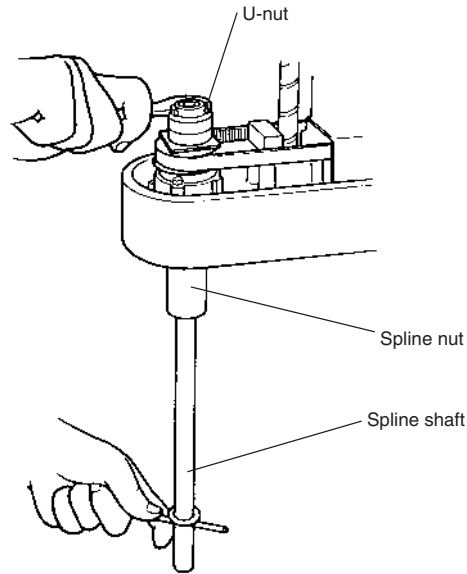

Fig. 5-47
(See Fig. 5-47.)
- 20) Insert the bearing mount plate and bearing onto the spline from the top, and tighten the U-nut to secure the bearing. (Utilize the  $\phi 8$  through-hole when tightening the U-nut like you did to loosen it.) (See Fig. 5-47.)